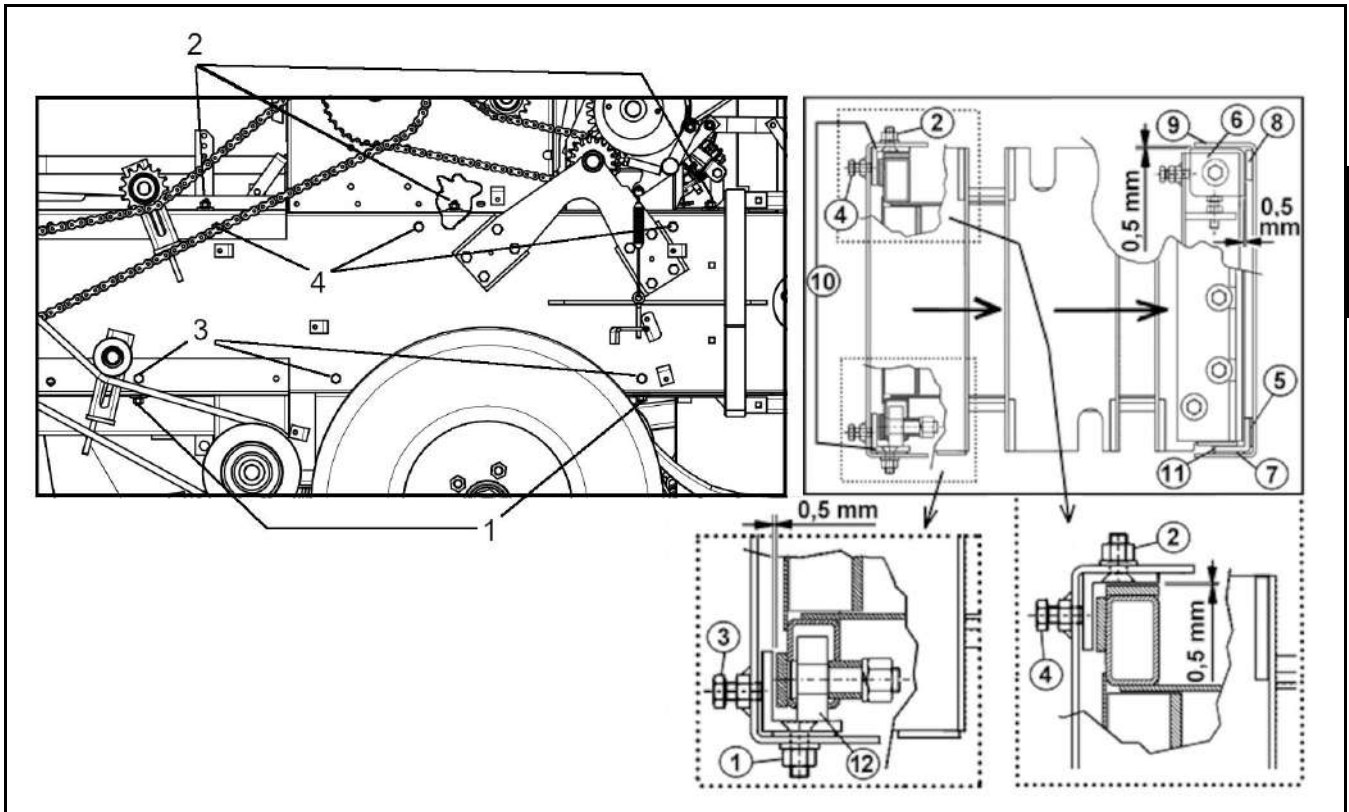

Fig. 7.8
The plunger is mounted on sealed bearings and is guided by steel blades. In the bale chamber it slides on adjustable steel guides. The lateral adjustment must be made such as to leave a space of 0.5 mm in which the plunger can move. Despite the minimal play, the plunger must not be stopped in its stroke. This adjustment should be done rarely, unless it is noted that the plunger has too much play. To obtain the correct clearance of the plunger, it is necessary to adjust the left side guides of the plunger (ref. 10, Fig. 7.8).
Loosen the bolts 1 and 2 (Fig. 7.8) and then push the guides (first the lower then the upper one) by means of the pressure bolts 3 and 4 (Fig. 7.8) until the plunger side guides are 0.5 mm or less from the left side guides of the chamber.
At this point, retighten the bolts 1 and 2 (Fig. 7.8).
The aforementioned adjustment on the left guides makes it possible to compensate the excessive play due to the wear of the left guides and also the small amount of play due to a possible limited wear of the right guide. (Fig. 7.8)
Once the left side guides have been adjusted, it is necessary to compensate any play that may occur between the upper part of the upper right corner guide and the slide block 6 (Fig. 7.8) by moving, by means of the adjustment and fastening screws, the aforementioned slide block so that there is a maximum play of not more than 0.5 mm.
The lower right corner guide 11 (Fig. 7.8) is fixed and is mounted on the bale chamber with the insertion of the shims 5 and 7 (Fig. 7.8). If the lower right guide is fairly worn, the guide must be removed and other shims inserted to compensate.
The upper right side guide is fixed and is fastened to the bale chamber with screws. Any excessive play that occurs between the plastic slide block 6 (Fig. 7.8) and the aforementioned guide is compensated by moving the slide block in question by means of adjustment and fastening screws so that there is a maximum play of not more than 0.5 mm.
In the same way, it is necessary to make adjustments to compensate for any play produced between the slide block 6 and its upper right guide 9 (Fig. 7.8).
The plunger height can be adjusted using the eccentric pins of the 4 journal bearings 12 (Fig. 7.8), after having removed the plunger from the bale chamber.